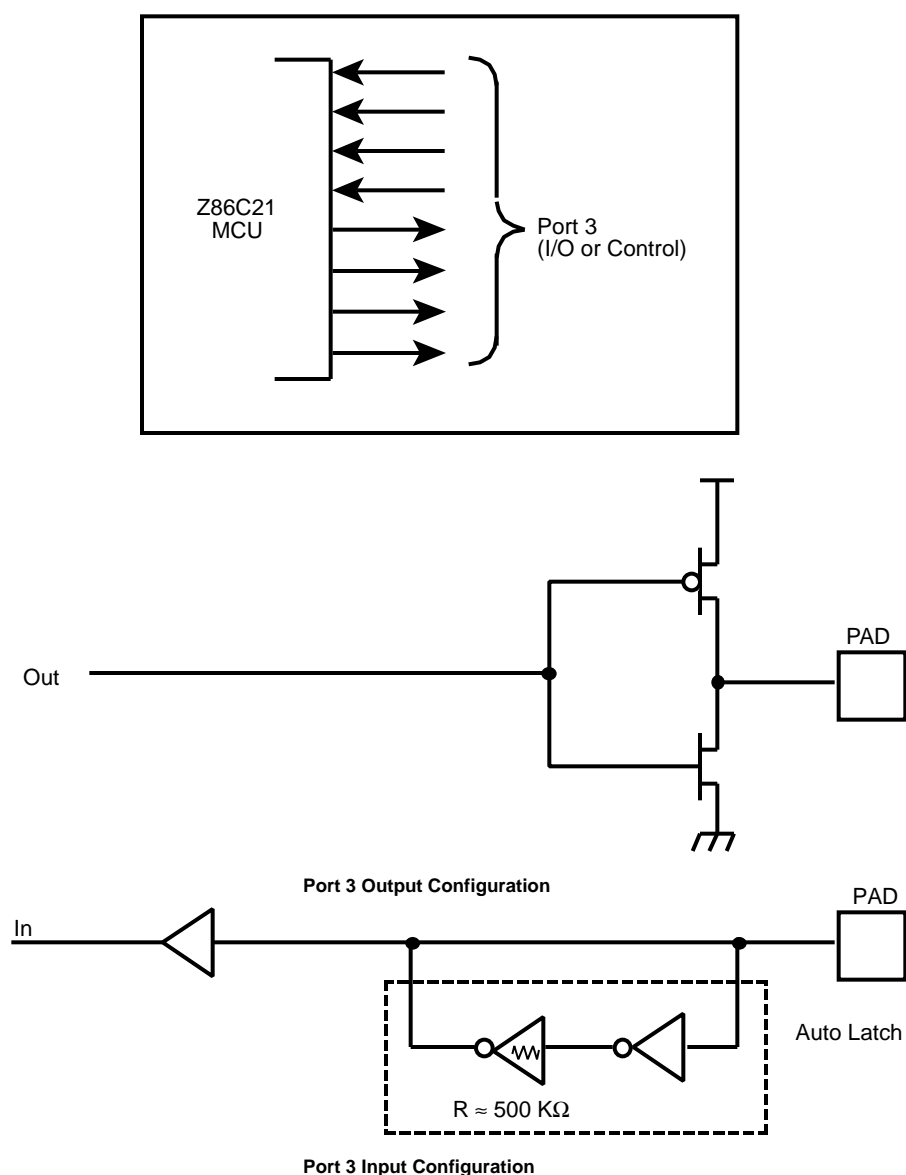

Figure 8. Port 3 Configuration
**Port 3** (P37-P30). Port 3 is an 8-bit, CMOS compatible four-fixed-input and four-fixed-output port. These eight I/O lines have four-fixed input (P33-P30) and four fixed output (P37-P34) ports. Port 3, when used as serial I/O, is programmed as serial in and serial out, respectively (Figure 8 and Table 4) Port 3 pins have Auto Latches only.